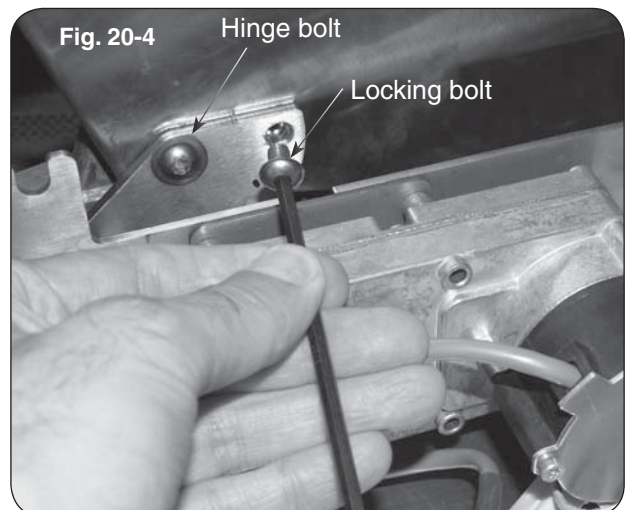

Fig. 20-4
3. Use the Allen wrench to loosen and remove the lid motor assembly locking bolt and washer (see Fig. 20-4).